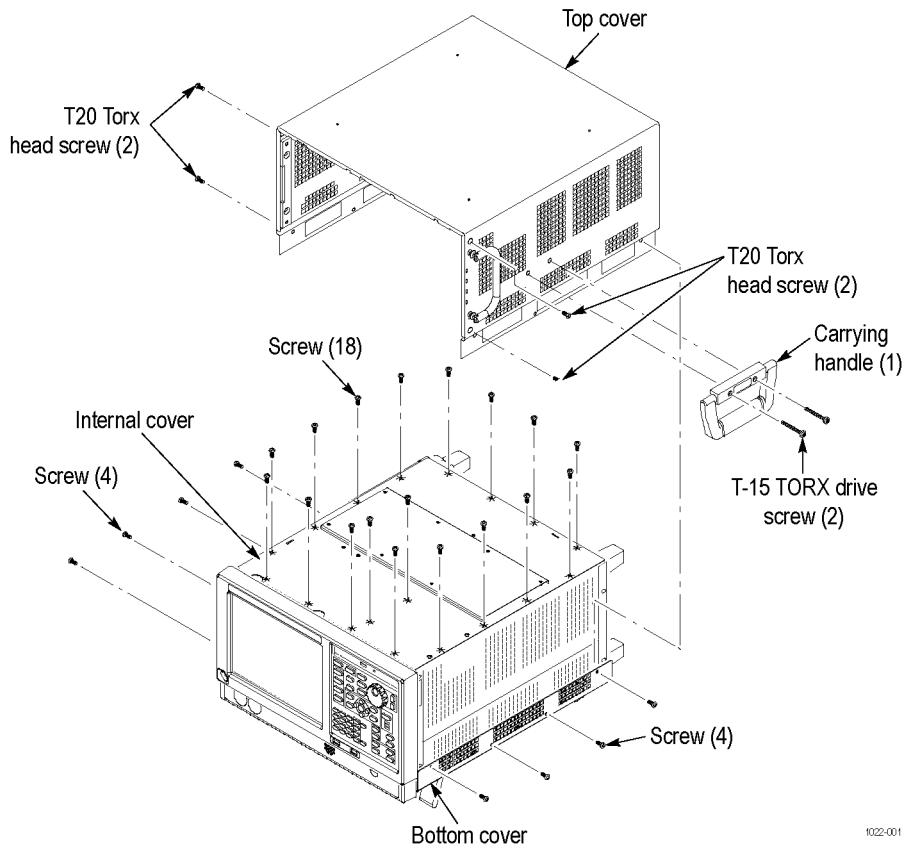

Figure 1: Removing the cosmetic top cover
3. Remove the two T15 TORX-driver screws that attach the plastic carrying handle to the side of the instrument. (It is not necessary to remove the black metal handles.) (See Figure 1.)
3. Reinstall the top internal cover. (See Figure 1 on page 4.)
Reinstall the top and bottom covers. (See Figure 1 on page 4.)